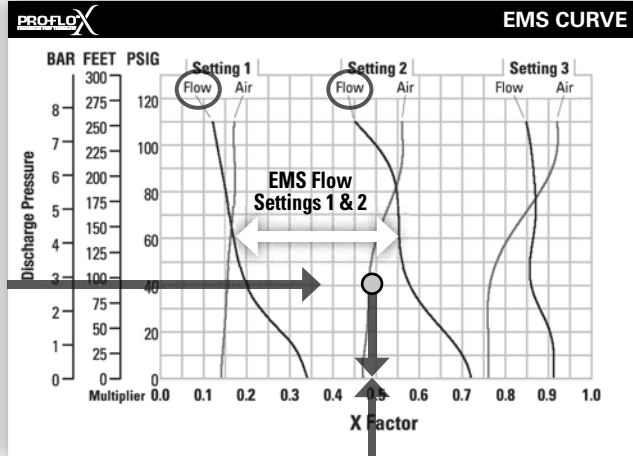

Figure 5
Step 4: Determine EMS setting from the flow X Factor. Plot the point representing the flow X Factor (0.49) and the application discharge pressure 2.8 bar (40 psig) on the EMS curve. This is done by following the horizontal 2.8 bar (40 psig) discharge pressure line until it crosses the vertical 0.49 X Factor line. Typically, this point lies between two flow EMS setting curves (in this case, the point lies between the flow curves for EMS setting 1 and 2). Observe the location of the point relative to the two curves it lies between and approximate the EMS setting (figure 5). For more precise results you can mathematically interpolate between the two curves to determine the optimal EMS setting.